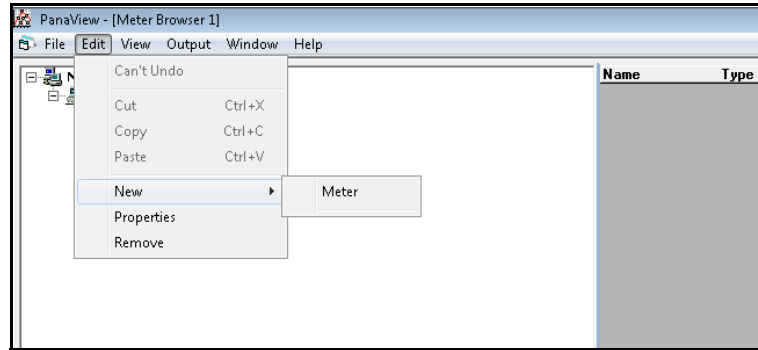

Figure 36: Add New Meter (using the Right-click option)
3. Using the right mouse button (right-click), click and highlight the communication port to which the meter will be added (see *Figure 36* below)